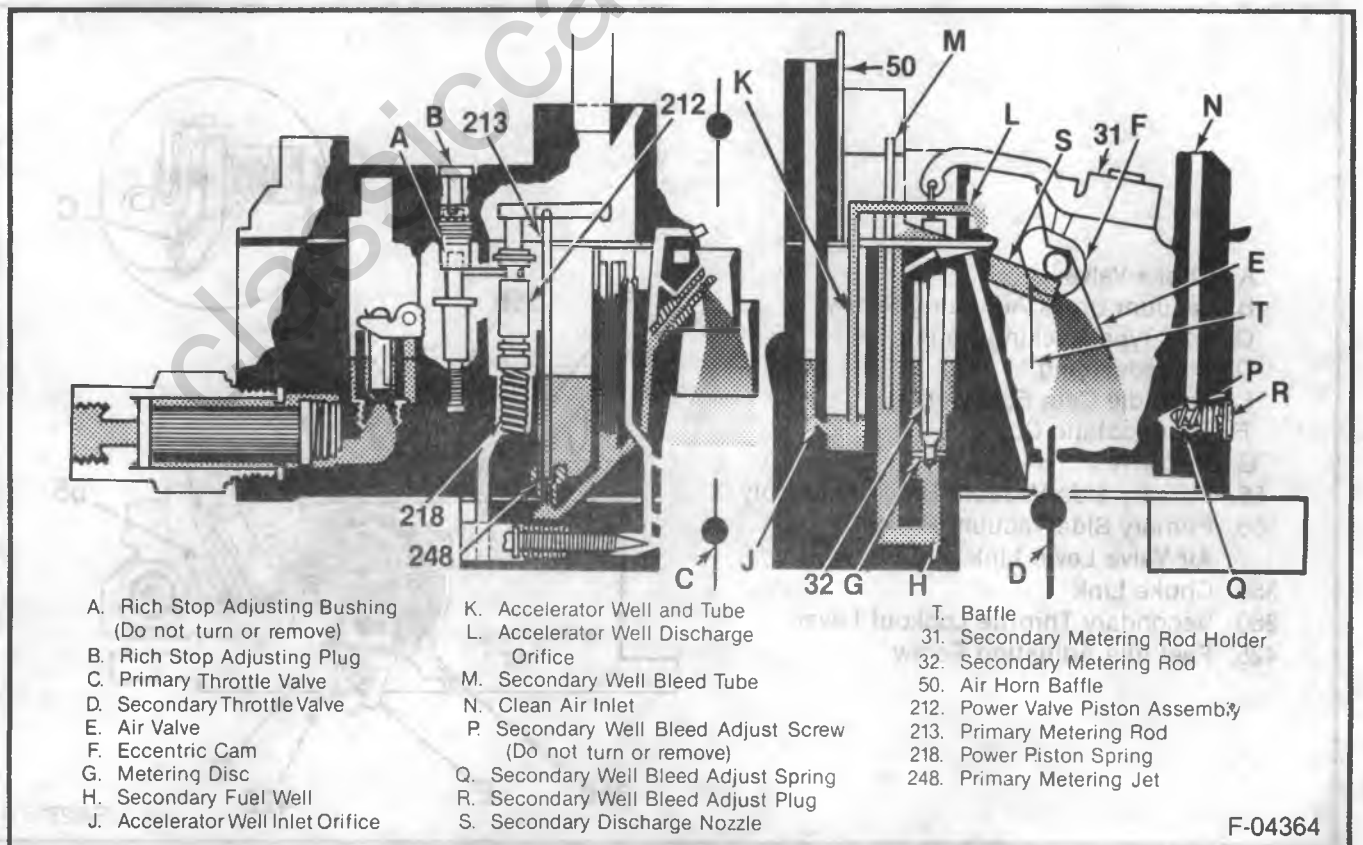

Figure 30 - Power System
- Figure 30 Power
NOTICE: The rich stop adjusting bushing and the secondary well bleed adjusting screw (Figure 30) are also factory set. Any attempt to readjust them could result in engine damage or increased exhaust emissions.